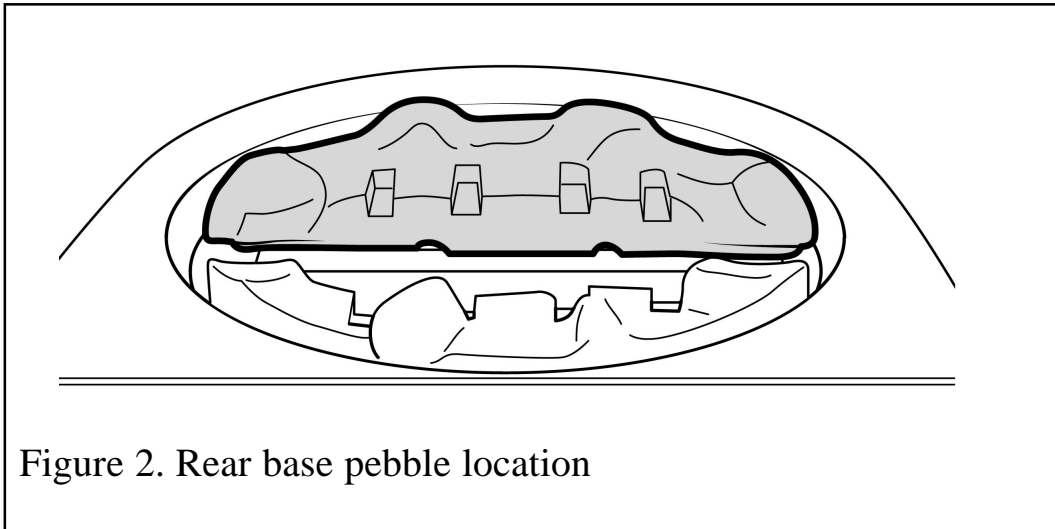

Figure 2. Rear base pebble location
2. The rear base pebble has the letters 'MB' on the underside. Locate the rear base pebble behind the burner (See figure 2).